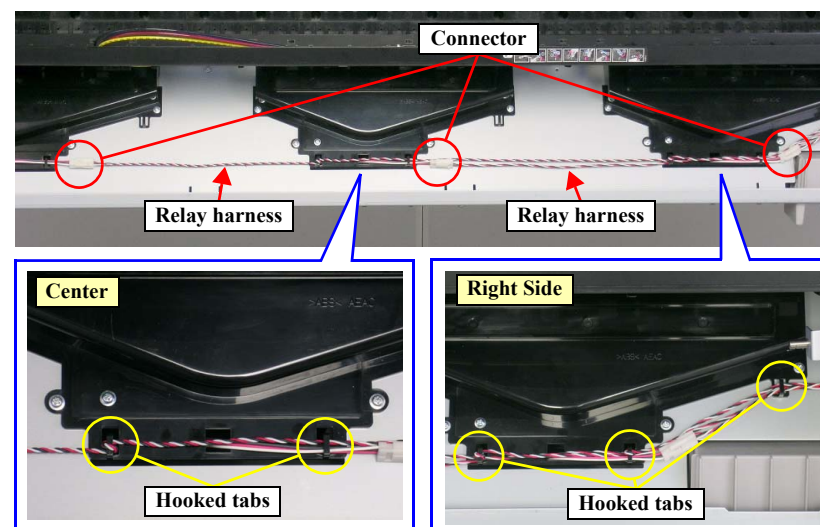

Figure 4-78. Releasing the Relay Harnesses
7. Disconnect the three connectors of the VACUUM FAN ASSY. from the relay connectors. See Figure 4-78.
8. Release the two relay harnesses from the five retaining clips (two clips on the center, and three clips on the right side) of the VACUUM FAN ASSY. See Figure 4-78.